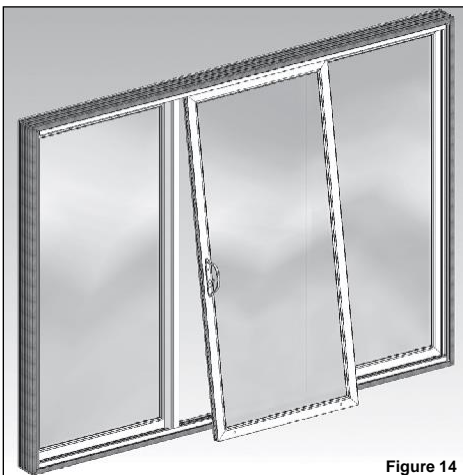

Figure 14
15. Insert the operating panel into the frame, making sure that the inside surface faces the interior. Insert the top and then the bottom of the panel (Figure 14).